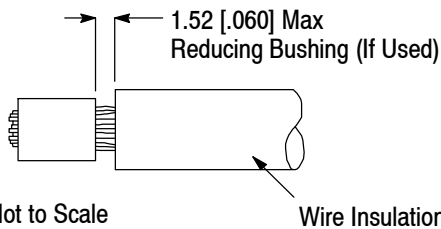

Figure 3
4. If used, slide the reducing bushing onto the wire conductors to the dimension given in Figure 3. Make sure that the wire insulation DOES NOT enter the reducing bushing and the ends of the conductors are visible.